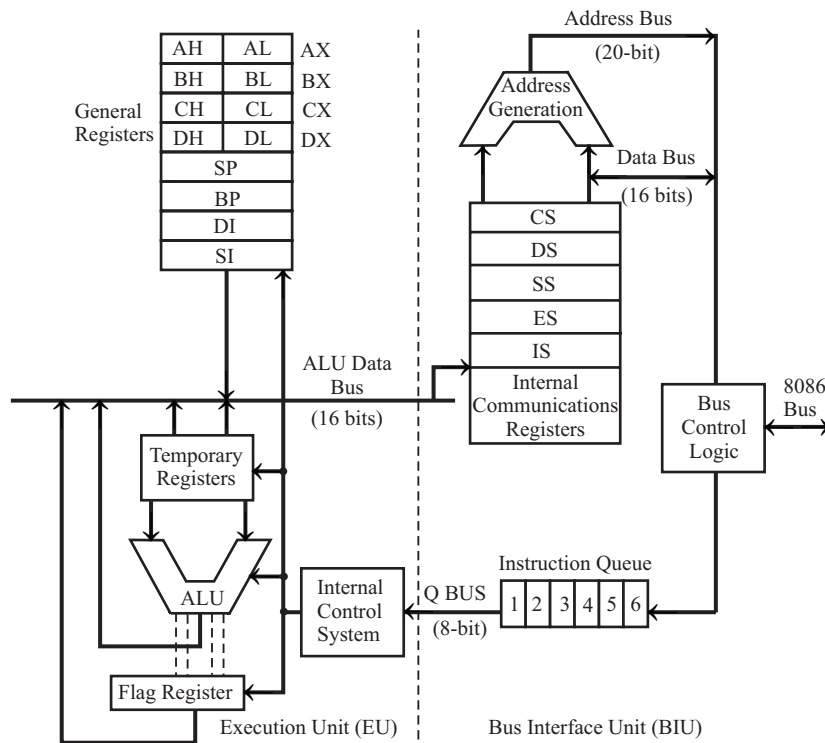

Fig. 1.9: Internal architecture of 8086.
The 8086 has a pipelined architecture. In pipelined architecture the processor will have a number of functional units and the execution time of the functional units are overlapped. Each functional unit works independently most of the time. The simplified block diagram of the internal architecture of an 8086 is shown in Fig. 1.9. The architecture of the 8086 can be internally divided into two separate functional units: **Bus Interface Unit (BIU)** and **Execution Unit (EU)**.